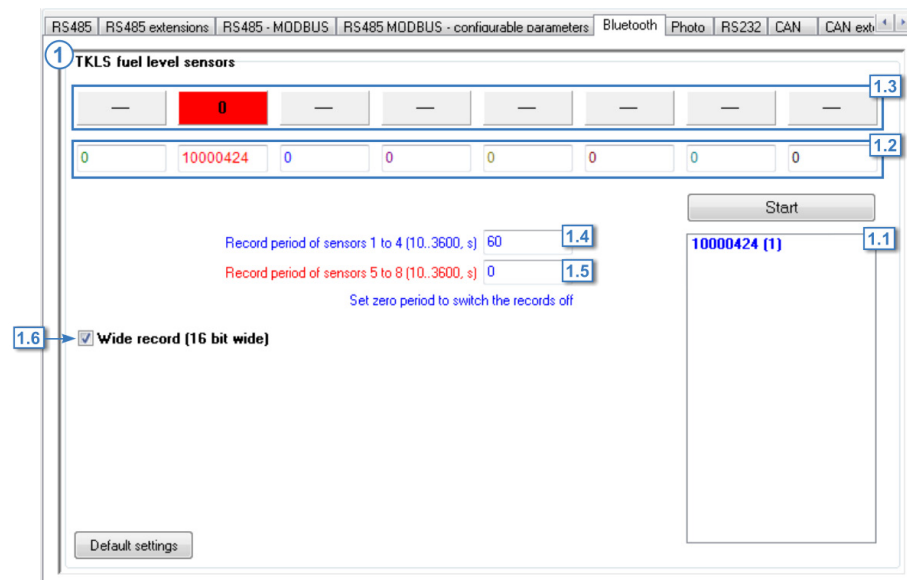

Fig.42. Bluetooth tab.
- press the Start button on the "Bluetooth" tab. The AutoGRAPH-GSM device will start searching for TKLS sensors. Serial number of TKLS sensors which have been found during the scanning are appear on the "Bluetooth" tab (Fig.42, i. 1.1);
- drag and drop a serial number to address bar of the required virtual sensor (Fig.42, i. 1.2). The address bars are displayed in the right order – first bar is an address of Sensor 1, second bar is an address of Sensor 2 and etc. Up to 8 addresses of fuel level sensors can be set. Readings of the sensor which address is specified in the address bar of Sensor 1 will be recorded as LLS1 readings in the AutoGRAPH device.
- to test operation of configured sensors, start the scanning again. Readings of fuel level sensors which addresses are set on the Bluetooth tab will appear on the tab. A colour of readings varies depending of the scanning state (Fig.42, i. 1.3):
- the recording period of sensors 1-4 is set in the “Record period of sensors 1 to 4” field (Fig.42, i. 1.4). The recording period of sensors 5-8 is set in the “Record period of sensors 5 to 8” field (Fig.42, i. 1.5). Minimum period is 10 seconds, maximum period is 3600 seconds, 0 period disables recording of sensor readings. The Record period of sensors is duplicated on the RS485 tab of the AG.GSMConf program.